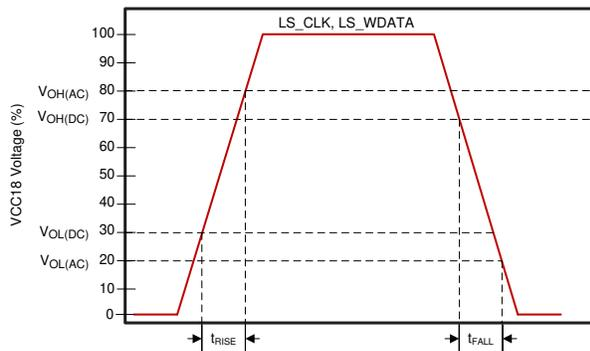
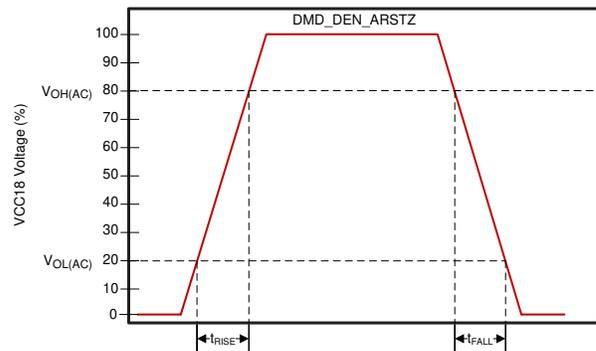

Figure 5-3. LS_CLK and LS_WDATA Slew Rate
Figure 5-4. DMD_DEN_ARSTZ Slew Rate
- (1) $V_{OH(AC)}$ maximum applies to overshoot. When the DMD_LS_WDATA and DMD_LS_CLK lines include a proper 43Ω series termination resistor, the DMD operates within the LPSDR input AC specifications.
- (2) $V_{OL(AC)}$ minimum applies to undershoot. When the DMD_LS_WDATA and DMD_LS_CLK lines include a proper 43Ω series termination resistor, the DMD operates within the LPSDR input AC specifications.
- (3) See Figure 5-3 for DMD_LS_CLK, and DMD_LS_WDATA rise and fall times. See Figure 5-4 for DMD_DEN_ARSTZ rise and fall times.